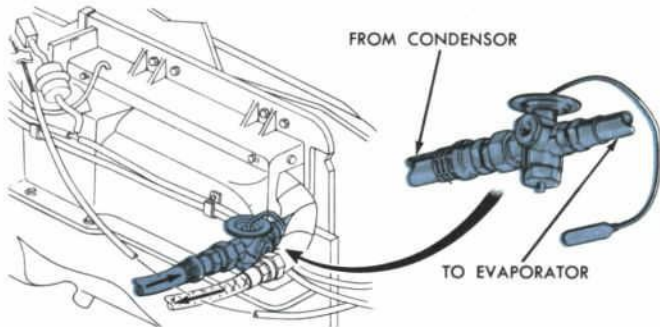

Fig. 43 — Expansion Valve Installation
4. Use two wrenches to disconnect the high pressure line that leads from the condenser (Fig. 43). Front-seat the outlet service valve or plug the disconnected line.